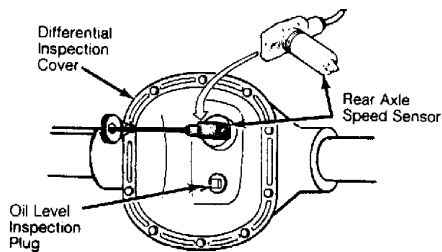

Fig. 4: Locating ABS Rear Speed Sensor
2) If resistance is not within specification, check sensor resistance at sensor connector at fuel filler pipe in trunk. If resistance is within specification, repair wiring harness to ECU. If resistance is not within specification, replace sensor. See Fig. 4.
Follow sensor wires from sensor to connector. See Fig. 4. Cut shrink tubing from connector (if applicable). Unplug connector. Pull sensor wiring from below vehicle. Unbolt sensor from differential cover. Remove sensor.